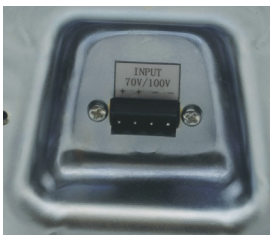

Figure 5: Plugging and Securing the Cable
5. Plug the connector into the socket in the terminal cup of the speaker (see Figure 5).